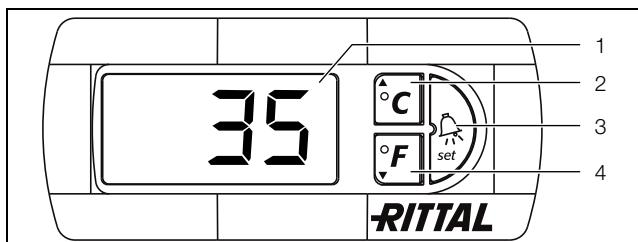

Fig. 16: Display and system analysis of the e-Comfort controller
The e-Comfort controller has a 7-segment display (fig. 16, item 1). After switching on the power supply, the current software version initially appears on this display for approx. 2 seconds. In regular operation, the display shows both the temperature (in degrees Celsius or Fahrenheit – users may switch between the two) and any error messages.
The unit is programmed using buttons 2 – 4 (fig. 16). The relevant parameters also appear in the display.
- Simultaneously press buttons 2 ($^{\circ}\text{C}$) and 3 ("Set") (fig. 16) for at least 5 seconds.
Using buttons 2, 3 and 4 (fig. 16) you can change the parameters within the preset ranges (min. value, max. value).